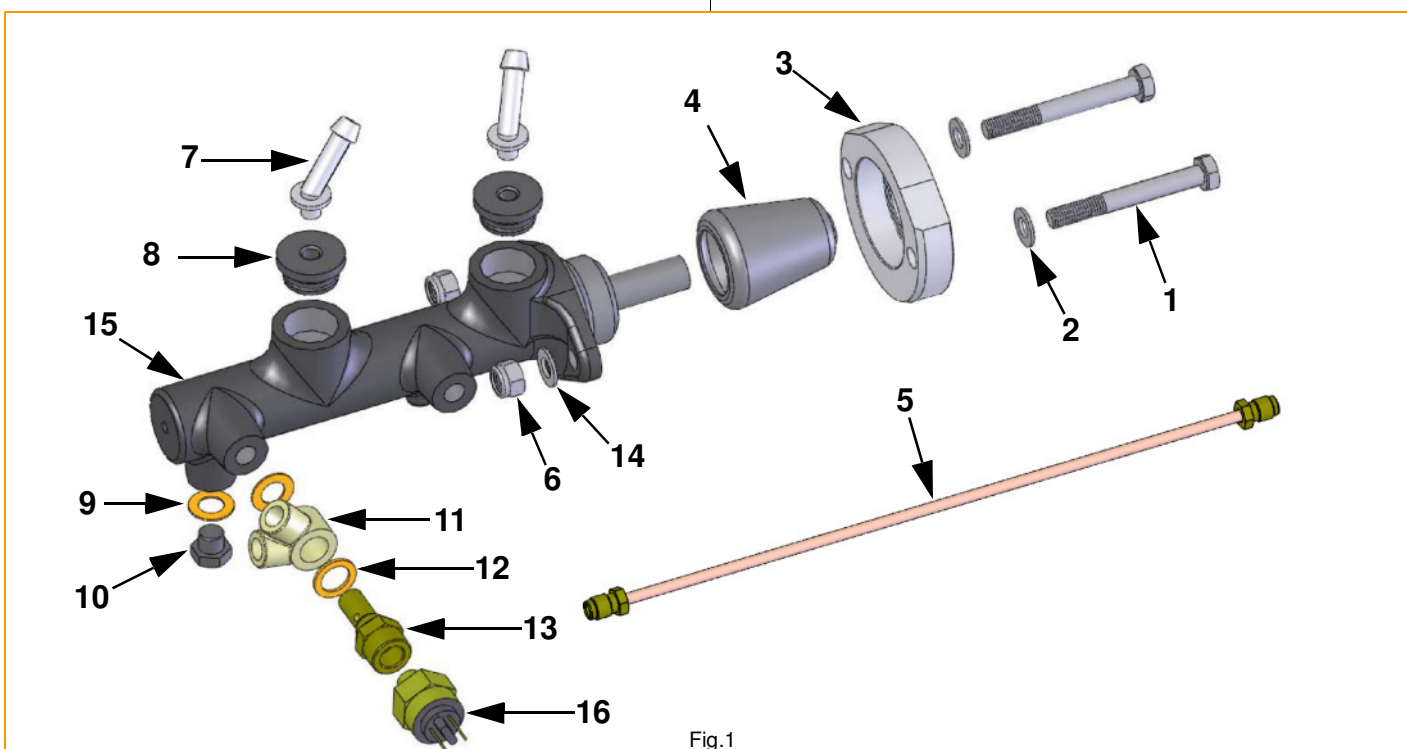

Fig.1
- Screw in the hex head pipe plug (Pos.10, Fig.1) with a copper washer (Pos.9, Fig.1) in the bottom hole of the master cylinder that is farthest away from the pedal push and tighten it with a torque of 12 lbs/ft (15 Nm).
- Put some brake fluid on the outside of the rubber grommets (Pos.8, Fig.1), then push them into the master cylinder.
- Put also some brake fluid on the outside of the plastic elbow connectors (Pos.7, Fig.1), then push them into the rubber grommets.
- Place the dust cover (Pos.4, Fig.1) onto the new master cylinder, and then slide the adapter ring (Pos.3, Fig.1) over the dust cover with the large inside diameter towards the master cylinder.
- Install the 2-way connector (Pos.11, Fig.1) with the copper washer (Pos.9, Fig.1) in the left hole that is farthest away from the pedal push and fix it with the copper washer (Pos.12, Fig.1) and the banjo bolt (Pos.13, Fig.1). Do not tighten the banjo bolt yet.